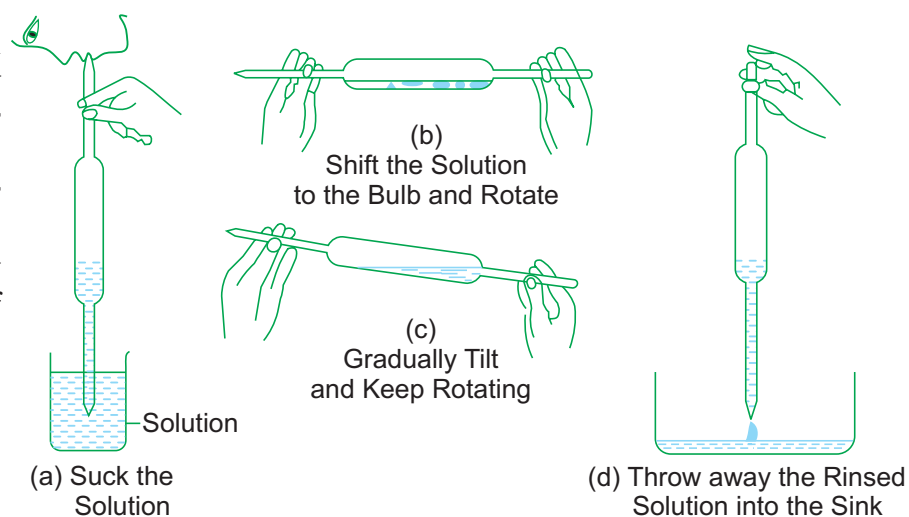

Fig.1.6. Rinsing of a pipette.
1. It is first washed with distilled water and then rinsed with about 5 cm^3 of solution as shown in fig. 1.6.